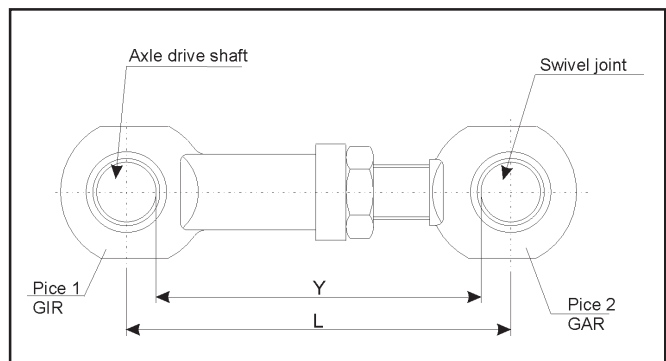

Fig. 3 – Pre-assembly of the standard connection links
The pre-mounted connection link (15) (see fig. 3 , table 2) is connected with the axle drive shaft (10) by means of a connection pin (12) and the circlips (32). The swivel joint (8) is now positioned in the bearing housing (1) and is connected to the pre-mounted connection link (16) by means of a connection pin (12) and the circlips (32). The spring plate (6) is screwed onto the adjustable plate spring (7) to limit stop.
The pre-mounted connection link (15) (see fig. 3 , table 2) is connected with the axle drive shaft (10) by means of a connection pin (12) and the circlips (32).